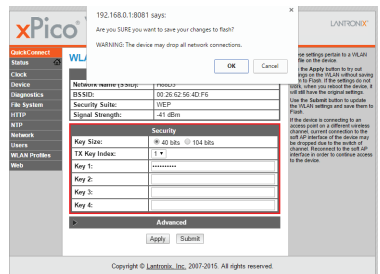

Figure 20: Complete Connection
- Click on the OK button in the dialog box. Ignore the displayed warning during the final process. **Note:** The device in the warning is XPicoWiFi. See Figure 20.